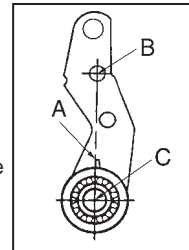

Figure 7
1. If (stop) screws (76S) had been loosened and retightened, the air gap may require resetting. The gap is measured between mating surfaces of plunger (2) and solenoid frame (79), and may be increased by raising slightly, or decreased by lowering slightly, wrap spring stop (76). Be sure to retighten (stop) screws (76S). Manually lift plunger to maximum travel and release. Depress plunger, manually or electrically, and allow it to snap up. Repeat several times, then recheck air gap. (For vertically mounted brakes refer to Note in Section IV under Item C).
2. Tang of wrap spring (71) must be below, and must make contact with, wrap spring stop (76) when solenoid lever (28) is manually raised. If stop is bent outward, allowing tang to bypass it, rebend to square position, assemble correctly, and reset solenoid air gap as described in Paragraph 1.
3. Should air gap disappear due to overheating, oil or other lubricant may have been applied to solenoid lever and pinion assembly (8). Remove support plate assembly (142). Loosen pressure spring nut (19) until pressure spring (11) is free. Remove cotter pin (8P) from solenoid lever (28) and retaining ring (131R) from pivot pin (131). Note location of spacer washer (138) if used, and push pivot pin out to free affected assembly. Remove retaining ring (32R) from pinion (32) and disassemble. Parts should be thoroughly cleaned in M.E.K. or equivalent solvent that does not leave a film. Dry all parts thoroughly and reassemble. Rotate pinion and wrap spring clockwise until tang (A) is aligned with centerline of the upper hole of the lever arm. Refer to Figure 7. Reassemble in reverse order. Do not retighten cap screw (19) until support plate assembly is mounted on endplate. Refer to Steps H and I of *Installation Procedure* to complete assembly.